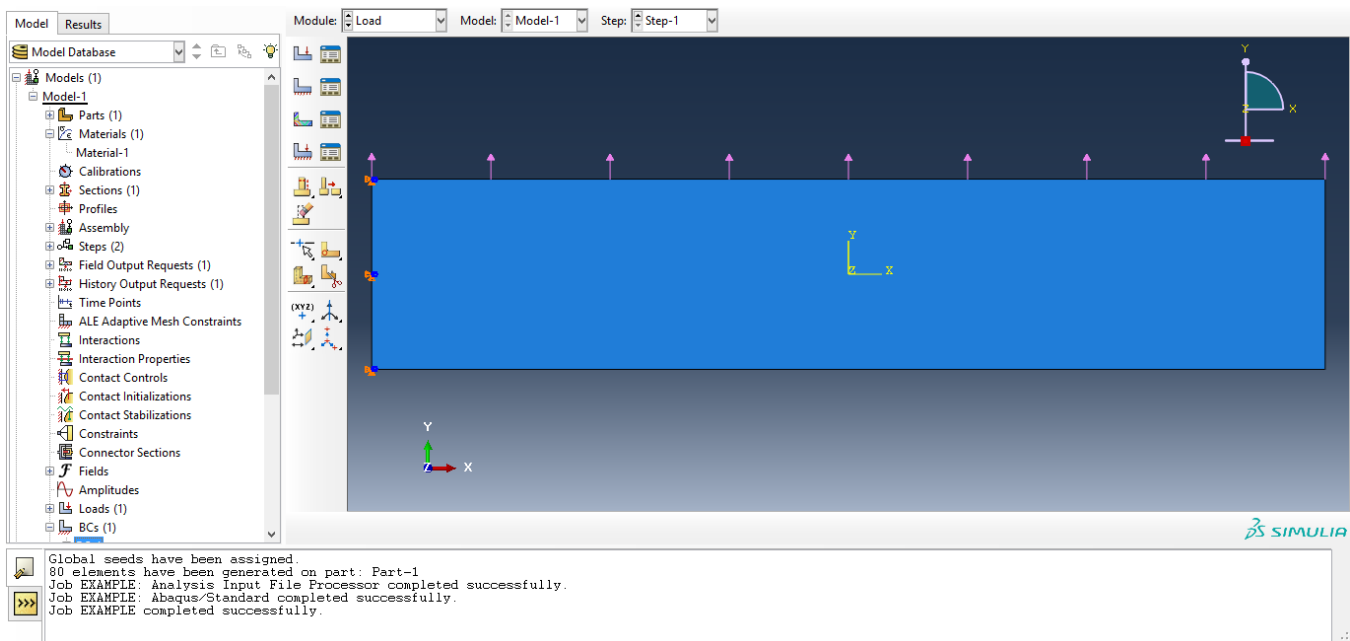

Figure 6: Model created from python script
8. After the scripts get executed, Abaqus cae GUI will open automatically calling python scripts and we can see the generated model(as shown in below *Figure 6*).